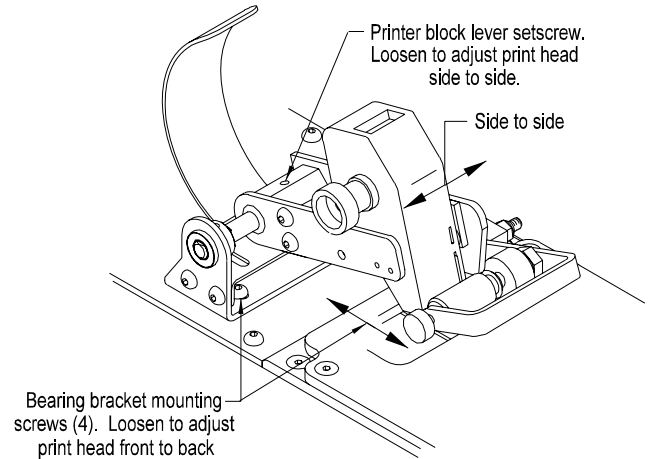

Figure 3.16
O. PRINTHEAD LOCATION- SIDE TO SIDE: (Figure 3.16)
P. PRINTHEAD LOCATION- FRONT TO BACK: (Figure 3.16)